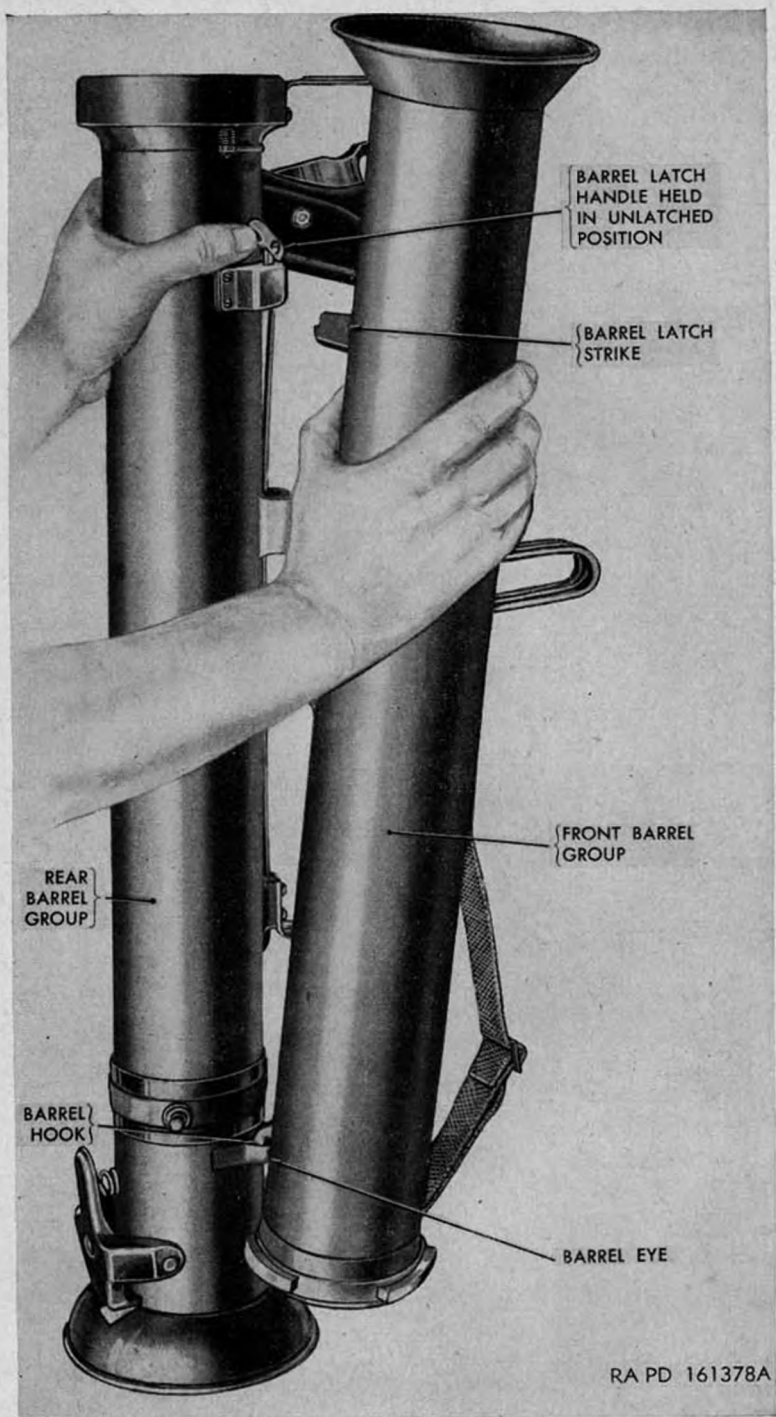

Figure 13. Unlatching barrels from carrying position.
Barrel latch handle (fig. 13)
a. The barrel latch handle (fig. 13) is located on the right side of the rear barrel assembly, just back of the trigger grip.
- (1) Release the barrel latch (par. 15) and disengage the barrels (fig. 13).